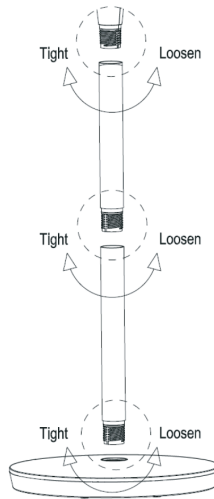

FIGURE 2
2. Align the base with the lower pole then connect them in place as shown in Figure 2 then fix them with the nut in Figure 3.
3. Align the lower pole with upper pole and fan head then connect them in place as shown in Figure 2.